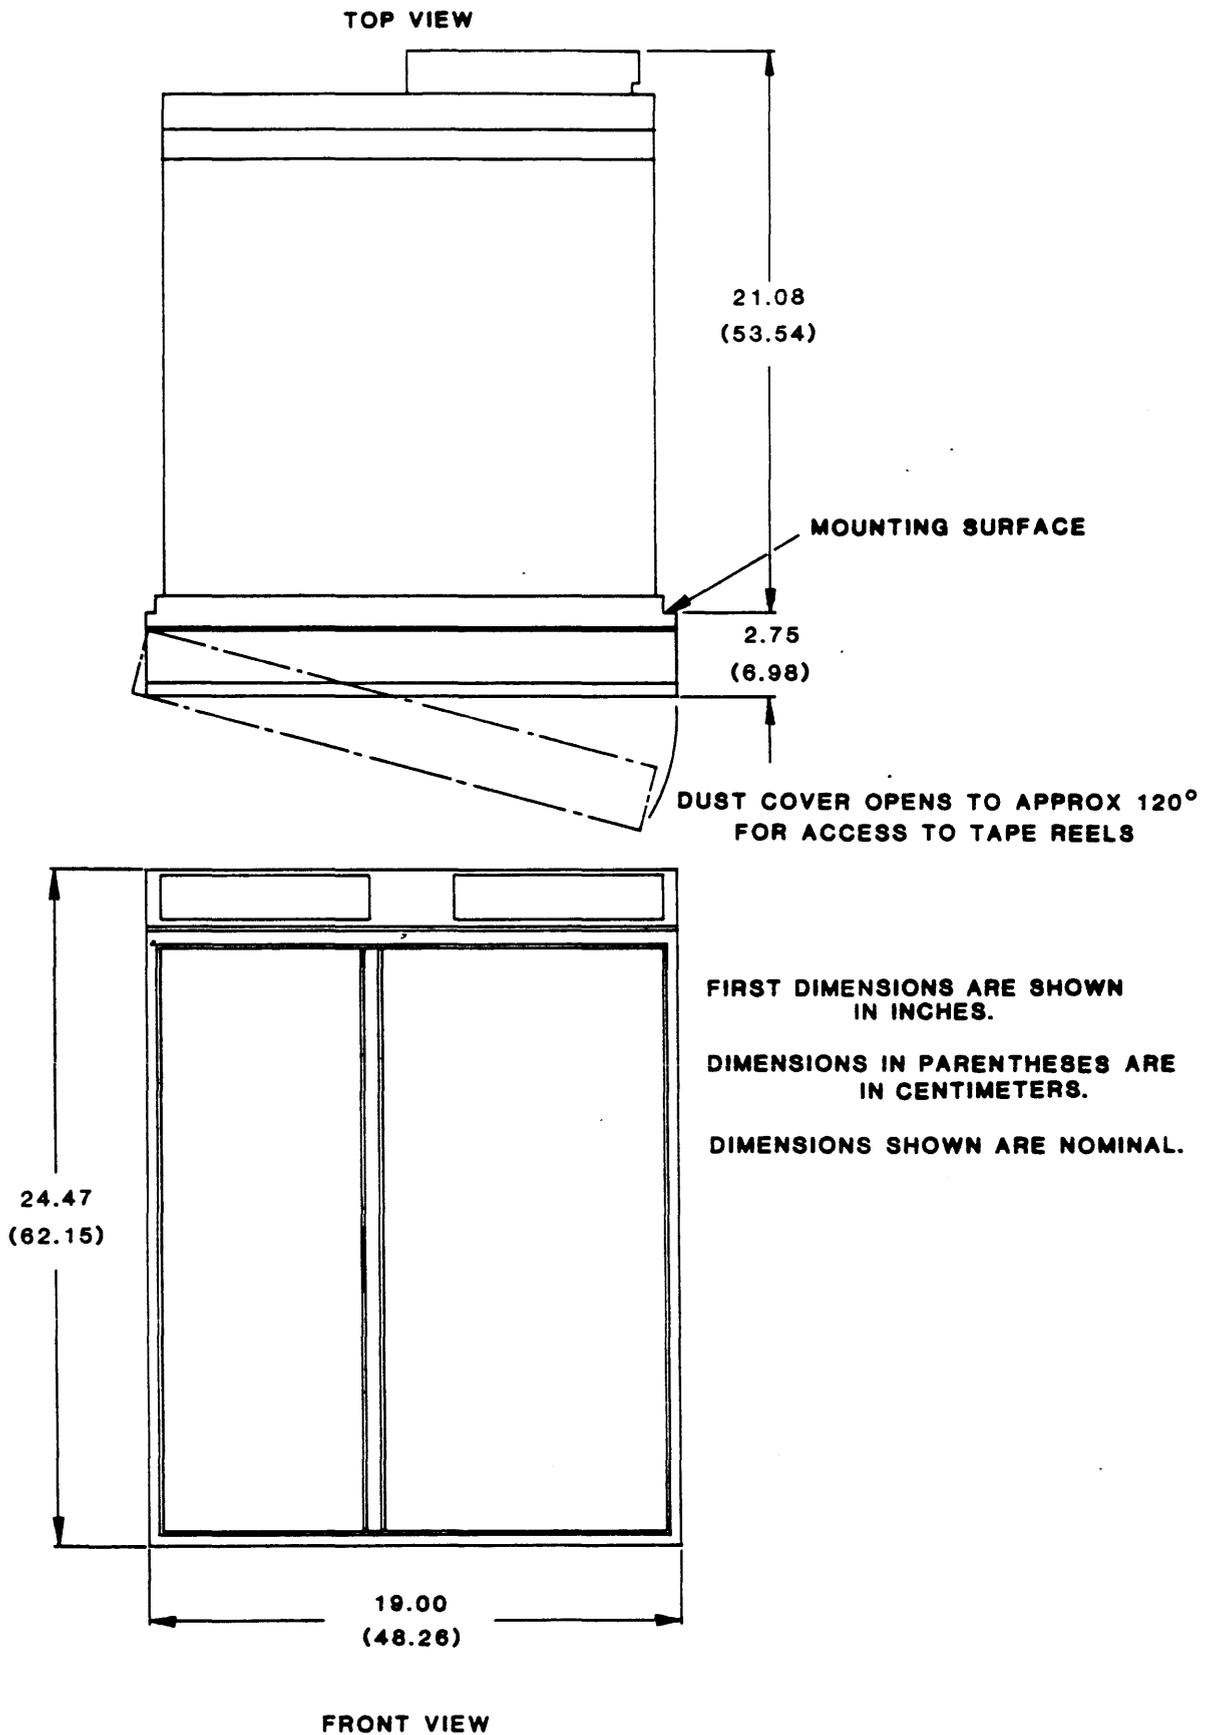

Figure 2-24. Dimensions, Model 9100 with Embedded Formatter
- D. All Tape Drive interface lines are terminated with a 220-ohm 5% resistor to plus five volts and a 330-ohm 5% resistor to ground. Termination is implemented on earlier versions of the 9100 and 9300 Drives by Terminator Resistor Boards (Figures 2-18, 2-19, 2-20 and 2-21). On later versions termination is by Single In-line (resistor) Packs (SIPs - Figure 2-24). All 9700 and 9800 Drives use Terminator Resistor Boards only.